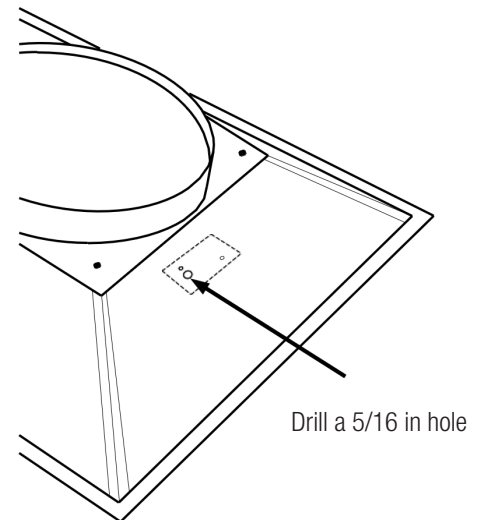

Fig. 1
**NOTE:** If more space is required to drill the holes, the diffuser mechanism may be removed from the backpan by unscrewing the four (4) screws.
2. Drill a 5/16in hole in the top of the backpan on the same side as the thermostat (see Figures 1 and 2).